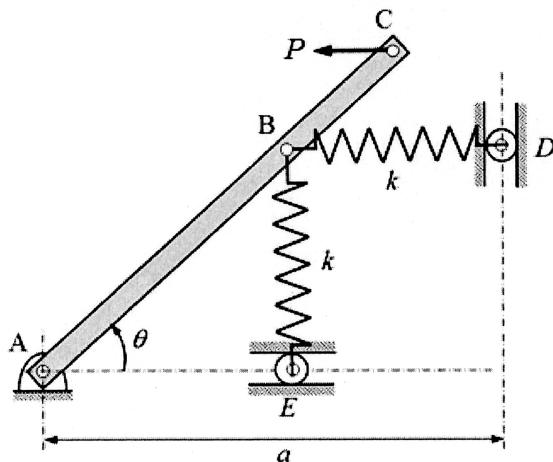

Figure 1
- 1 (a) Figure 1 shows a rigid bar ABC pin-jointed to a support at A and connected to two springs of equal stiffness k at B. The other ends of the springs are roller supported at D and E. The portions AB and BC are of lengths $2L$ and L , respectively. The free length of each spring is equal to l_0 . The horizontal distance between point A and D is a (as shown). Under the action of horizontal force P applied at C, the springs are in stretched condition and the bar is inclined at an angle θ as shown. Ignore the weights of all components and any friction at the joints and contacts. Using the principle of virtual work ($\delta W = \delta U$), obtain an expression for P in terms of θ and possibly other parameters such as L , k and a .